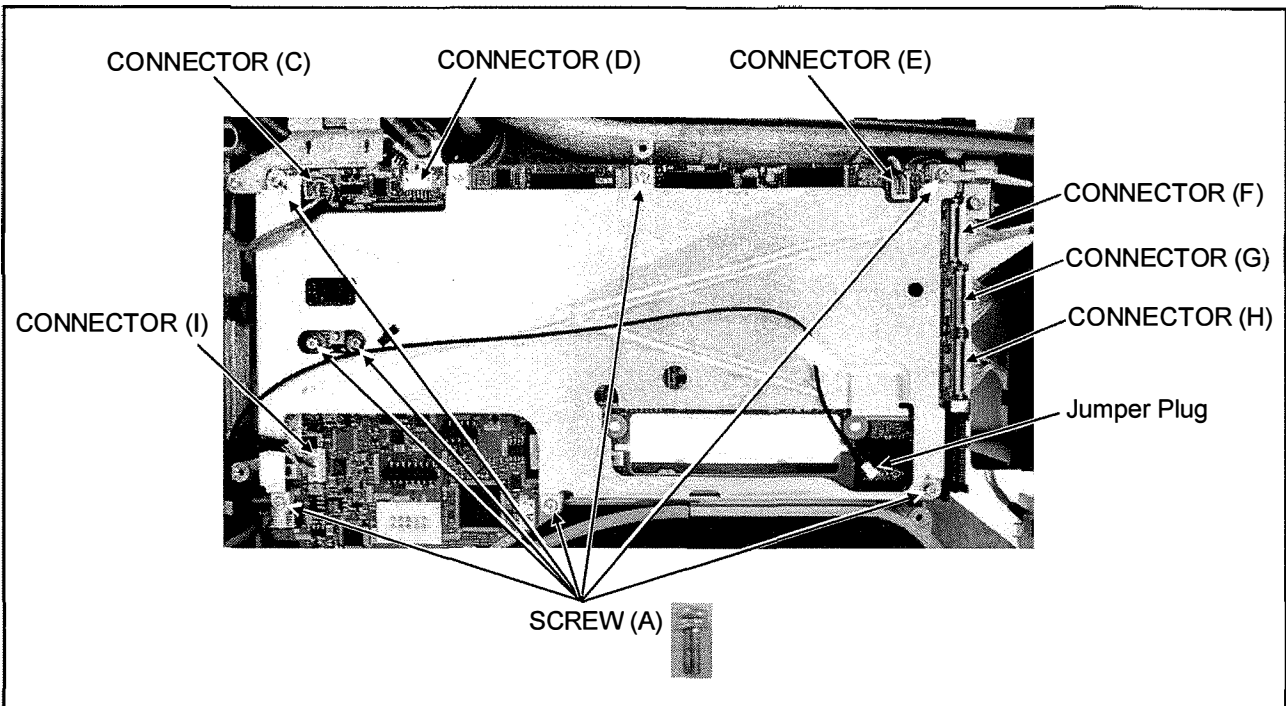

Figure 9-2
8. Disconnect the connector (C), (D), (E), (F), (G), (H), (I) and jumper plug as shown in figure 9-2.
9. Unscrew the 8 screws (A) as shown in figure 9-2 and remove the DIGITAL MAIN P.C.B..